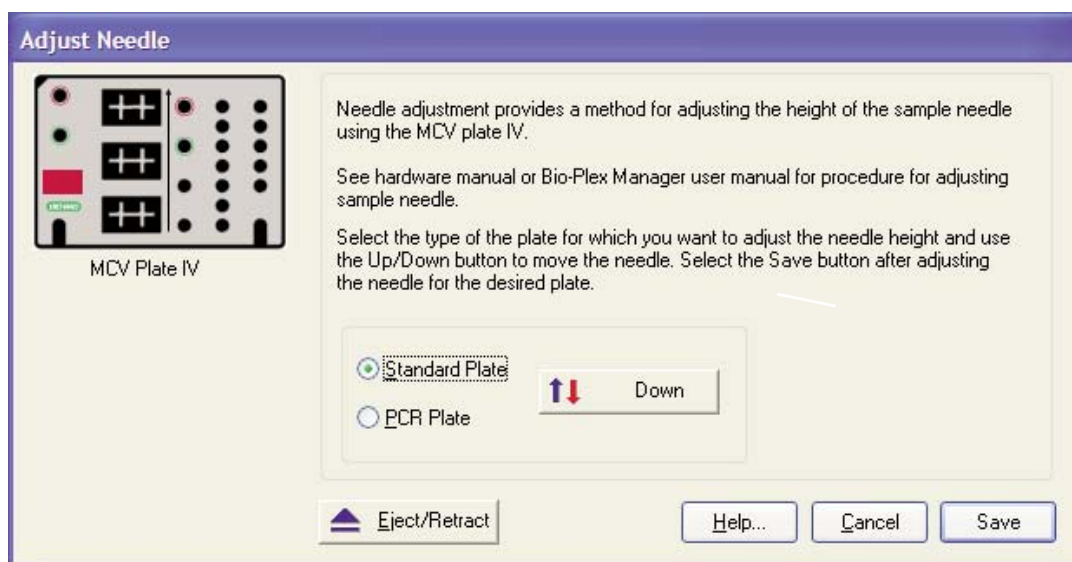

Fig. 16. Sample needle dialog.
4. Choose **Setup**. Choose **Adjust Needle** from the pull-down menu. The following dialog box appears (Figure 16):